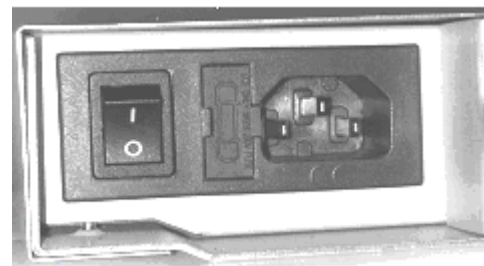

Figure 9. Power switch, fuse holder and power cord connection
2. Plug the power cable into the rear of the FastStor 1 (see Figure 9). Plug the other end of the cable into a properly grounded electrical outlet.